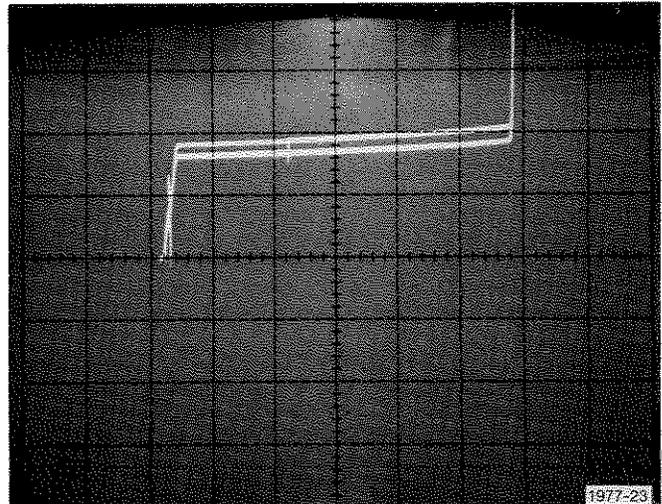

Fig. C-5. Display of input offset current.
- b. Check that the input offset (vertical separation between the +Input Bias Current and the -Input Bias Current) is ≤ 1.25 divisions, or ≤ 25 nA. If greater resolution is needed, change the VERT UNITS/DIV switch to a more sensitive setting and repeat Steps 2, 3, and 4 (see Fig. C-5).
Check that the horizontal excursion of the trace in Step 4 is not less than 2.2 divisions (+12 V and -12 V) each side of the centerline (see Fig. C-5).